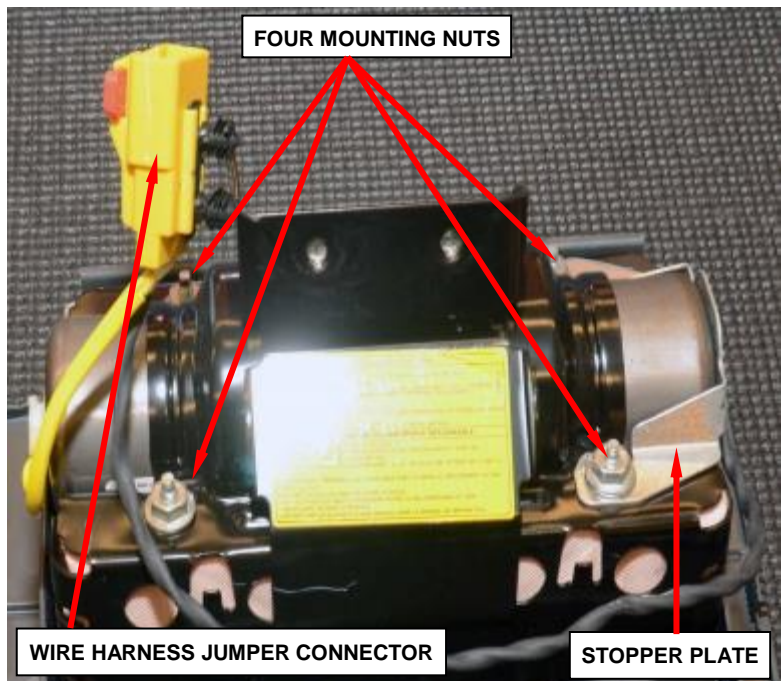

Figure 37 – Airbag Module
- d. Remove the yellow three way wire harness jumper connector from the housing bracket (Figure 37).
- e. Remove and **discard** the four mounting nuts, then remove the stopper plate from the passenger airbag module (Figure 37).